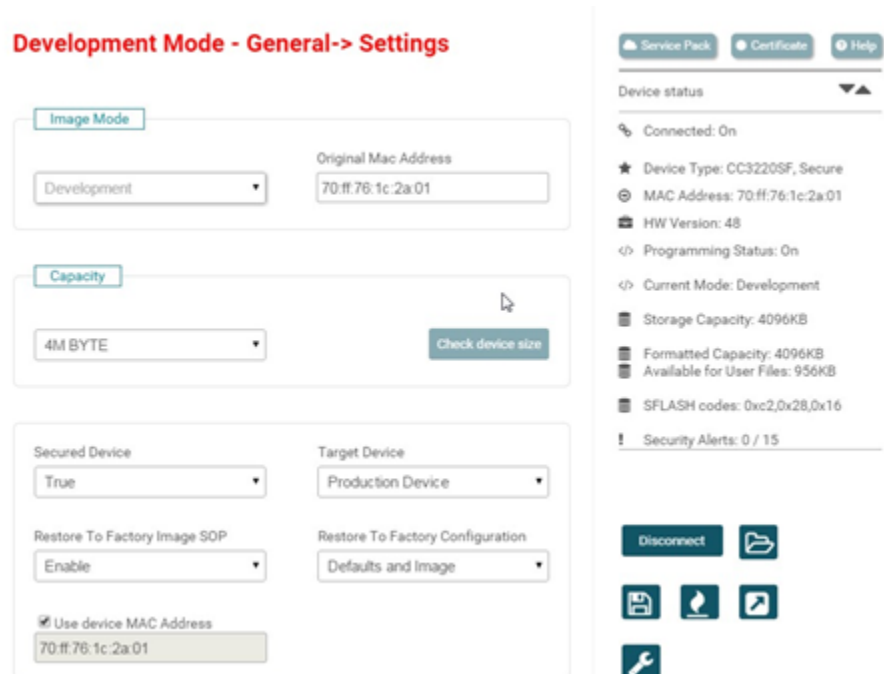

Figure 12. UniFlash General → Settings
6. Navigate to General → Settings (see Figure 12) by using the left-side navigation panel and ensure that the image mode is set to Development.
8. Ensure the Use device MAC address option is selected (see Figure 12) and that the MAC address appear on the top.